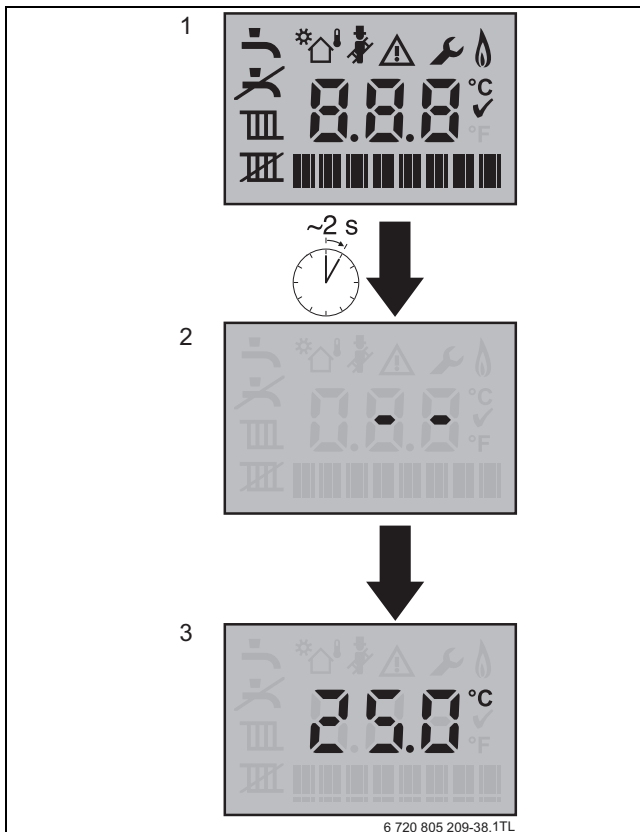

Fig. 68 Start up screens
- ▶ Turn on the mains power supply, initially the “Boiler start up screens” will be displayed (see figure 68:)